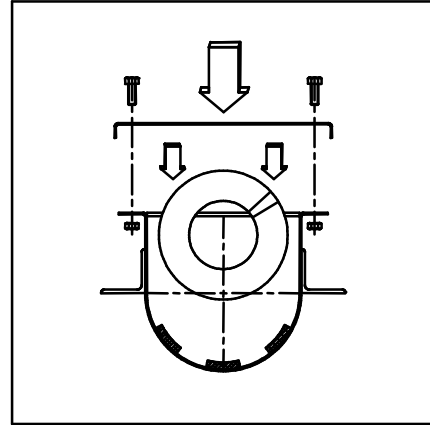

Figure 5.2m
12. Replace the protective cover to the trough (fig. 5.2m).